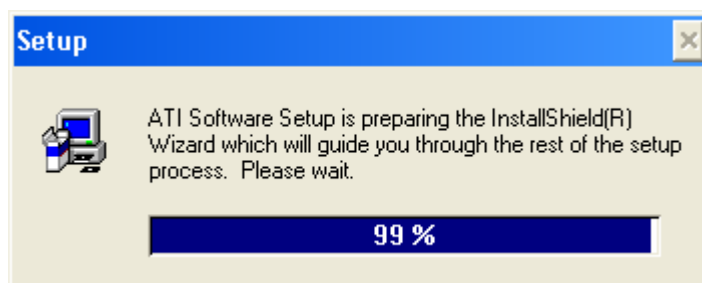

Figure 6-1: ATI Software Setup
- Step 2:** The Install Shield Wizard (Figure 6-1) is prepared to guide the user through the rest of the process.